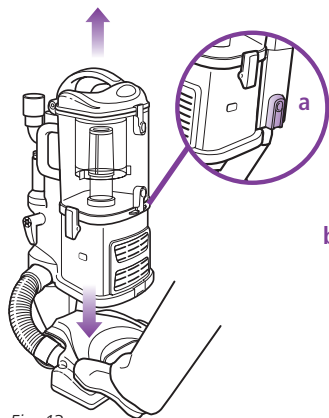

Fig. 13
- 1 Separate the portable *Lift-Away*™ canister from the floor nozzle by pressing the red release button (a) on the side of the canister. Gently hold the nozzle to the floor with your foot and pull the canister up. (Fig. 13)